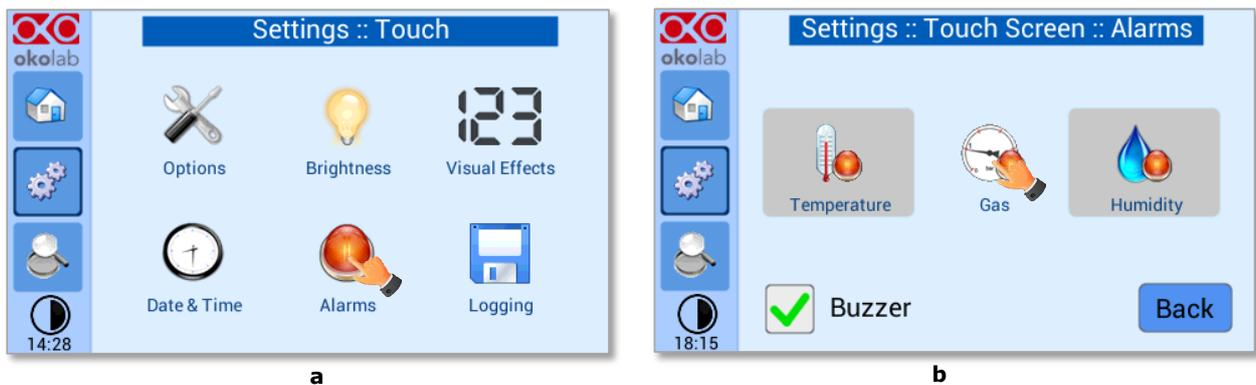

Figure 57. How to enter in Alarms page (a -b).
To set the alarms specifications, press the *Alarms* icon  (see Figure 57 a), then follow the indications below:
1. Click on the Gas icon  to set the gas deviation for a period of time then the system triggers on Alarms, as shown in the Figure 57 b.